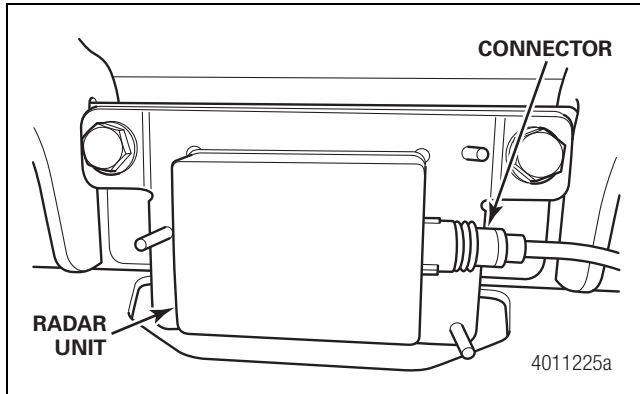

Figure 6
4. Reconnect the other end of the radar adapter harness to the new radar unit by pushing on the adapter connector until it snaps into the radar sensor. Slide the rubber boot over the connector until the connector is completely covered by the boot. If required, secure the harness using a tie strap. Make sure the harness is equipped with a drip loop and does not rub against any sharp edges. Figure 6.